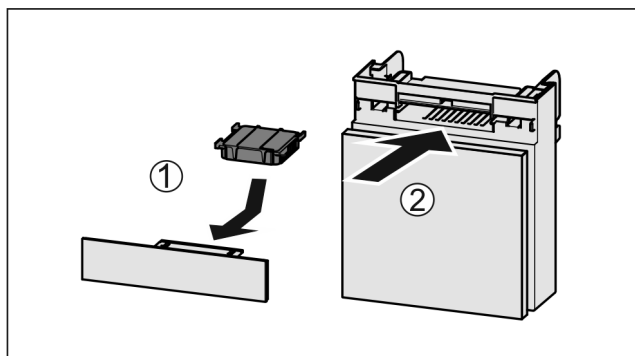

Fig. 107
- Insert the carbon filter as shown in the diagram *Fig. 107 (1)*.
- Push the compartment in *Fig. 107 (2)*.